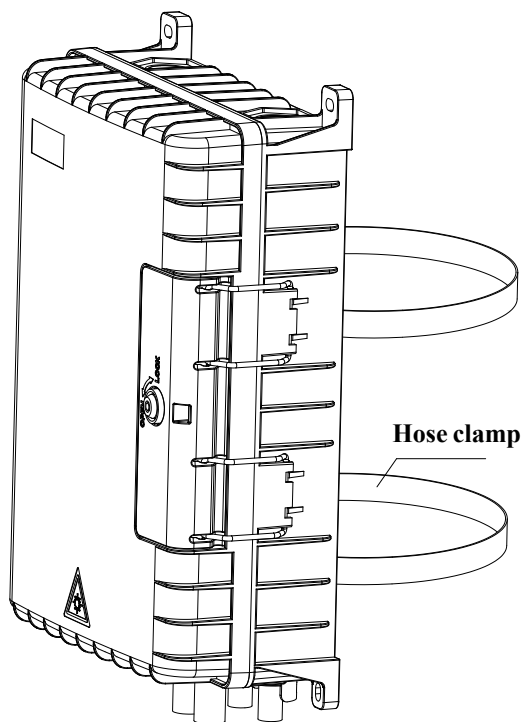

Figure 7
**3.8** Pole mounting: Install pole accessories on the bottom of the box, then use the hose clamp to fix it on the pole. See Figure 7